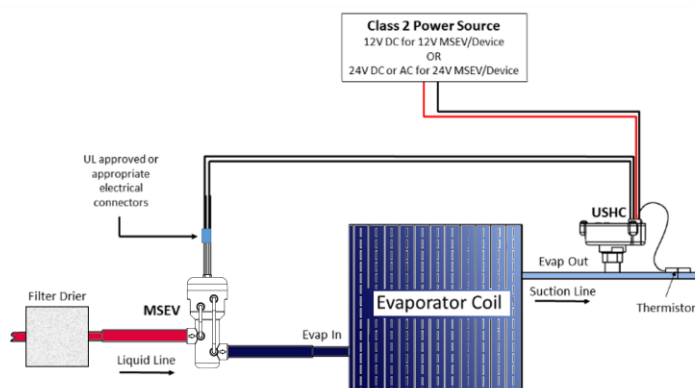

Figure 2-1 MSEV series valve and USHC installation schematic
This section describes the mechanical installation of a MSEV series valve and USHX. **Figure 2-1** below shows an example of a typical system where the MSEV series valve and USHX devices would be integrated. Like conventional thermostatic expansion valves (TXVs) or electronic expansion valves (EEVs), the MSEV series valve is installed at the inlet of the evaporator. The USHC, which drives and controls the MSEV series valve, is installed at the outlet of the evaporator, in place of the TXV bulb or EEV controller sensing device. The MSEV series and USHC are connected together by a wiring harness. A thermistor at the outlet of the evaporator measures the temperature, and the USHC is powered by the Class 2 power source.
7. It is mandatory to install a brand-new filter drier at the inlet of the MSEV series valve as indicated in Figure 2-1. It can be installed at about 6" away from the valve. The MSEV series valve must be protected against contaminants to ensure its optimal operation.